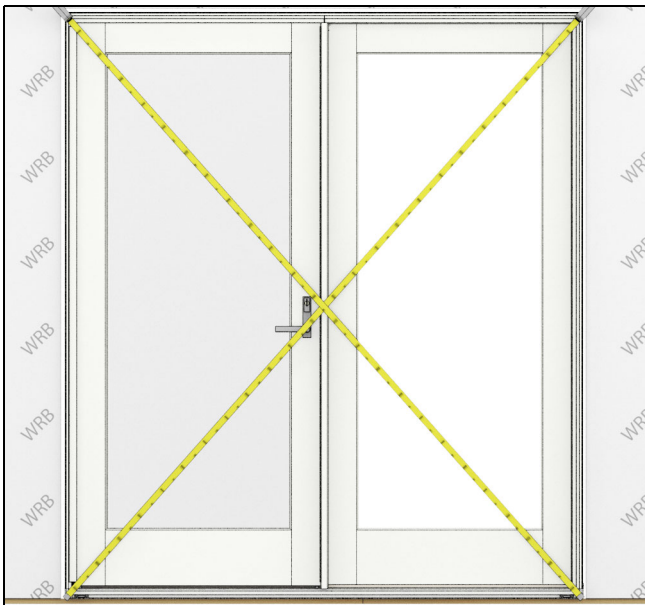

Figure 15
5. Check diagonal measurements for the entire frame. Adjust as necessary by applying shims to the corners 6" (152) from the sill and head jamb. See Figure 15.